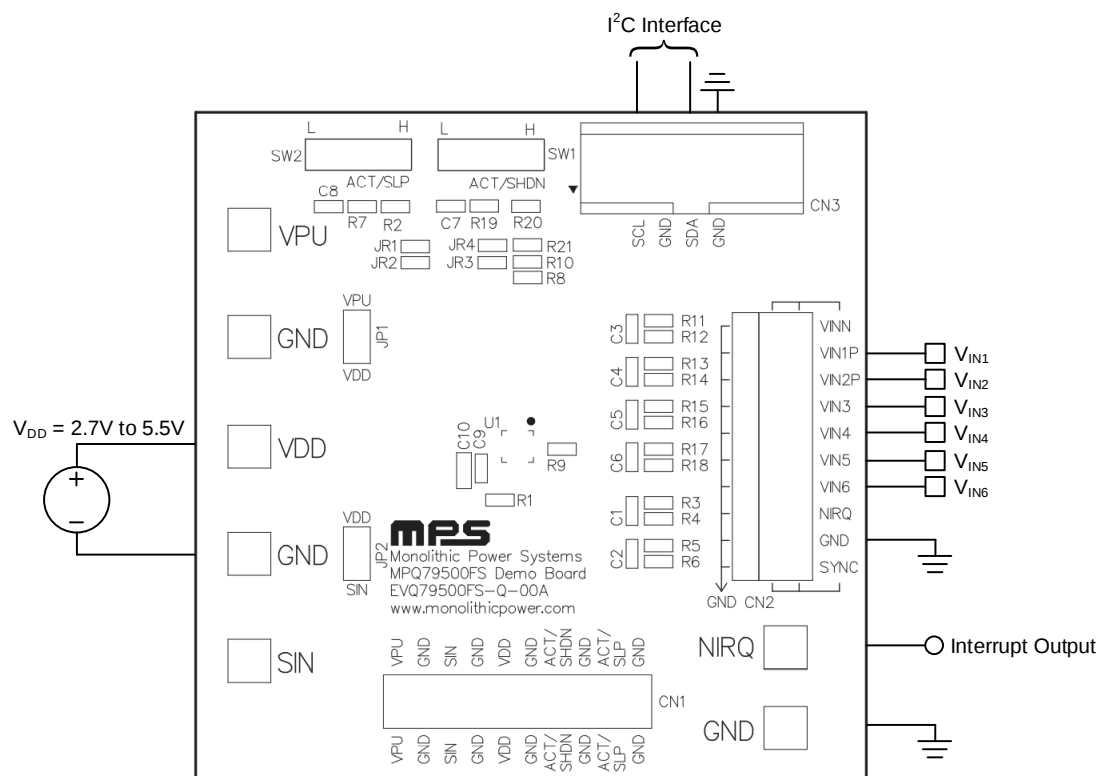

Figure 2: Measurement Equipment Set-Up
17. Figure 2 shows the proper measurement equipment set-up.